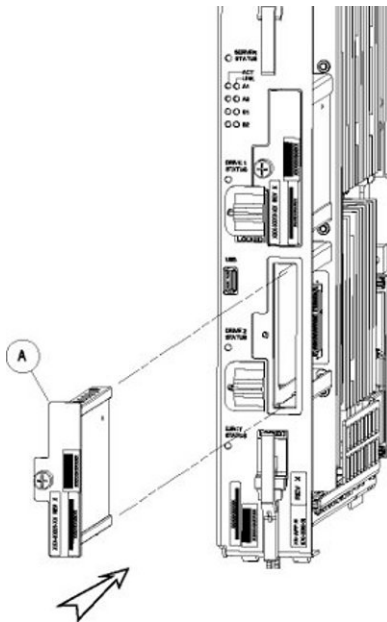

Figure 51: Drive Module Replacement
1. Slide a new drive(s) module into the drive slot on the card (see Figure 51: Drive Module Replacement).